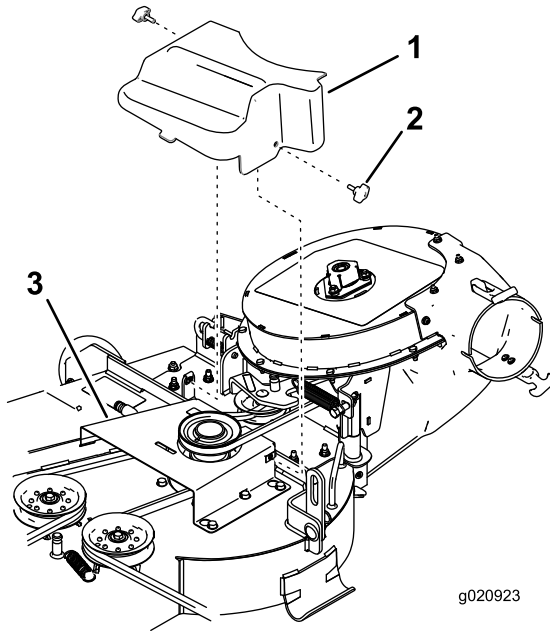

Figure 19
9. Secure the plastic belt cover to the blower support and the metal belt cover with 2 knobs (Figure 19).